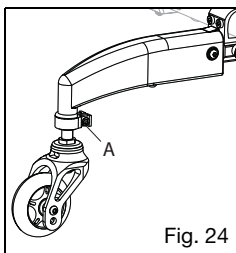

Fig. 24
1. Loosen the 6mm bolt in the clamping ring (Fig. 24:A).
3. Retighten the 6mm bolt in the clamping ring (Fig. 24:A).